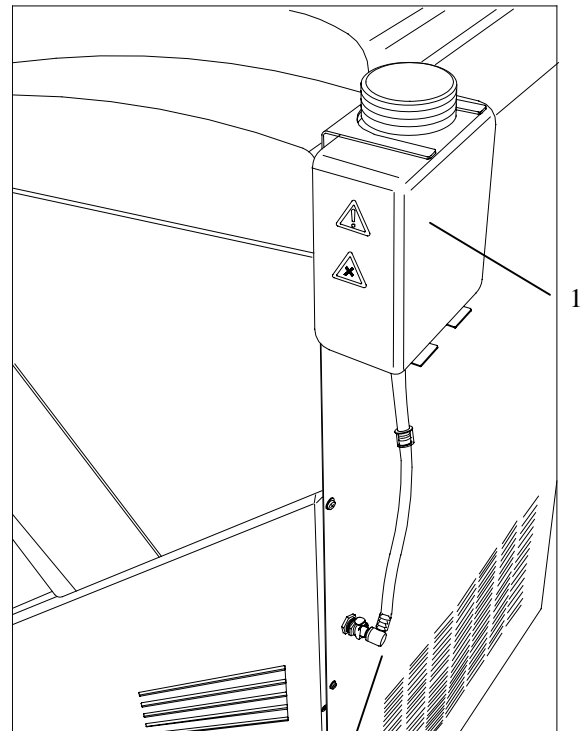

fig. 112a
Before the initial turn-on of the option D, first install the holder of the container (fig. 112a.1) for the disinfection solution via two screws on the rear panel of the instrument (fig. 112a).
- Insert the fast coupling on the rear side of the instrument (fig. 112a.2).